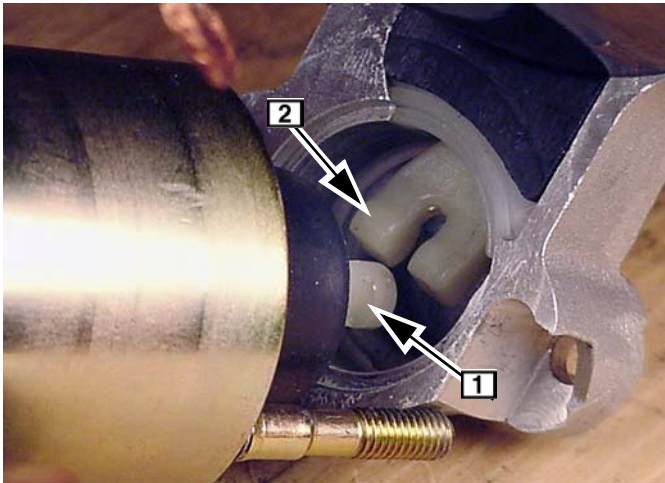

Fig. 102
4. Engage flats on plunger **1** with fork in drive lever **2** and assemble solenoid to starter, Fig. 102.